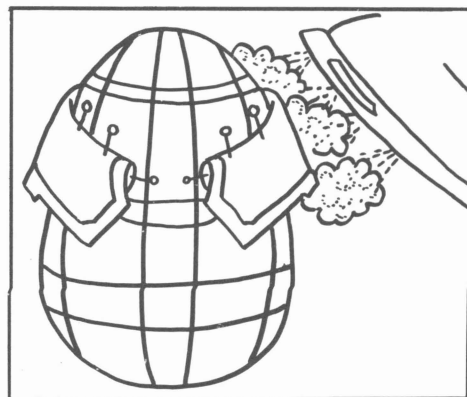

Figure 24. Shape and steam press the undercollar.
Fold undercollar along the roll line. Shape and pin undercollar to pressing ham as shown in Figure 24. Steam undercollar; allow to cool completely before handling again.
9. To mold the shape of the undercollar, fold undercollar along the roll line. Shape and pin undercollar to pressing ham as shown on Figure 24. Steam undercollar and allow to cool on the ham completely before handling again.